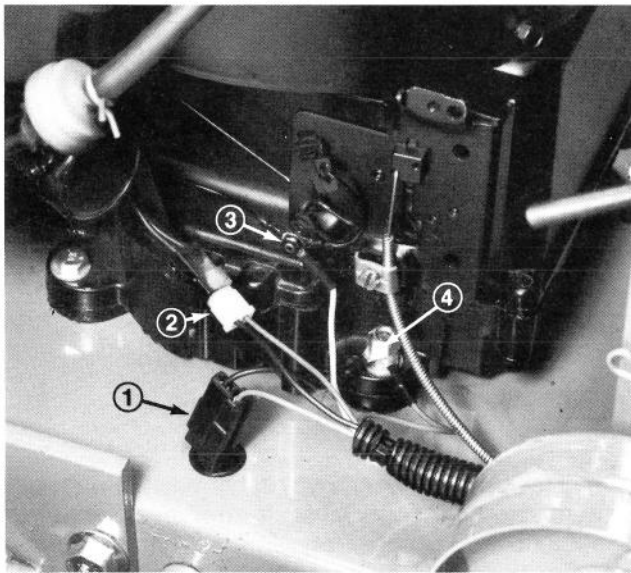

Figure 3
1. Secure clutch and engine in-line connectors (Fig. 3).
2. Remove small hex nut from governor plate terminal, mount small wire from wire harness and reinstall nut (Fig. 3).
3. Mount remaining (2) wires to engine mounting bolt with locknut supplied in loose parts.